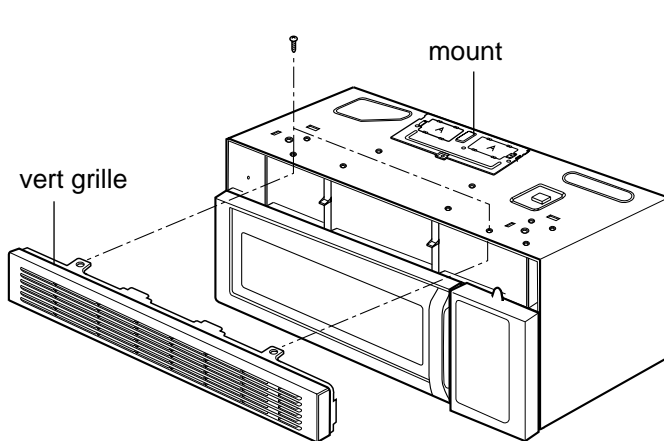

Figure 11
D. REMOVING MAGNETRON (Figures 11 Through 13)
- (1) Remove vent grille.
- (2) Remove mount.
- (3) Remove outer case.
- (4) Disconnect the wireleads.
- (5) Remove the Magnetron very carefully.